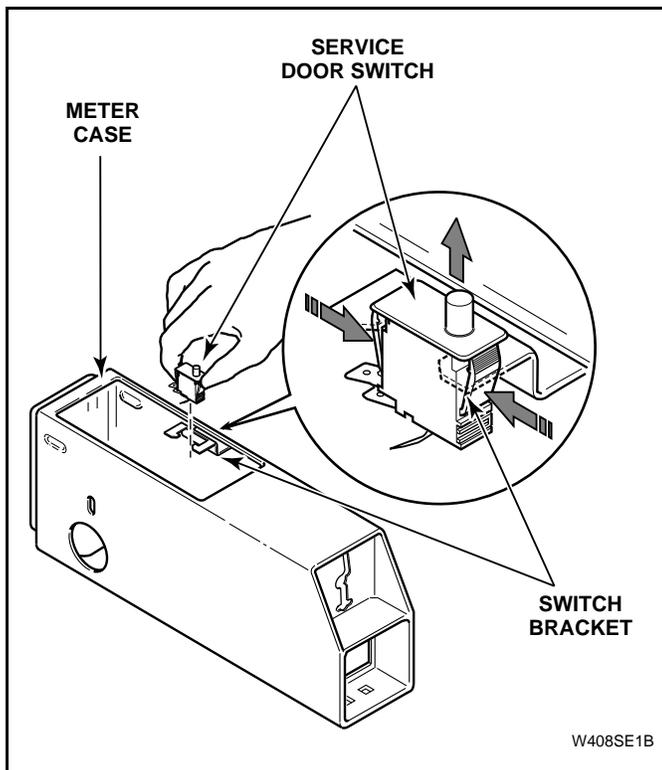

Figure 12
- (3.) Press in on locking tabs of service door switch and remove switch from bracket on meter case, as shown in *Figure 12*.